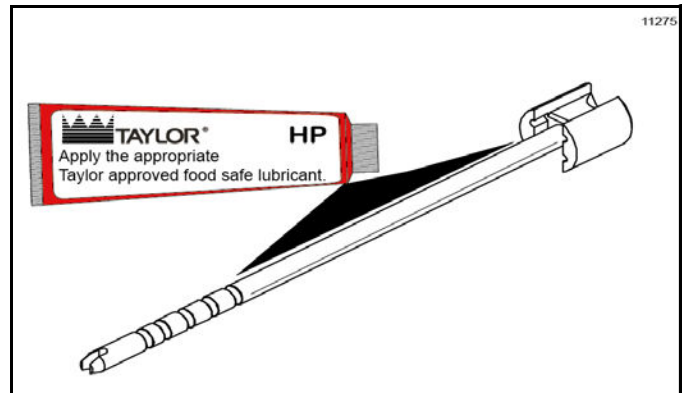

Figure 6-14
14. Lubricate the shaft of the spinner blade up to the groove. (See Figure 6-14.)